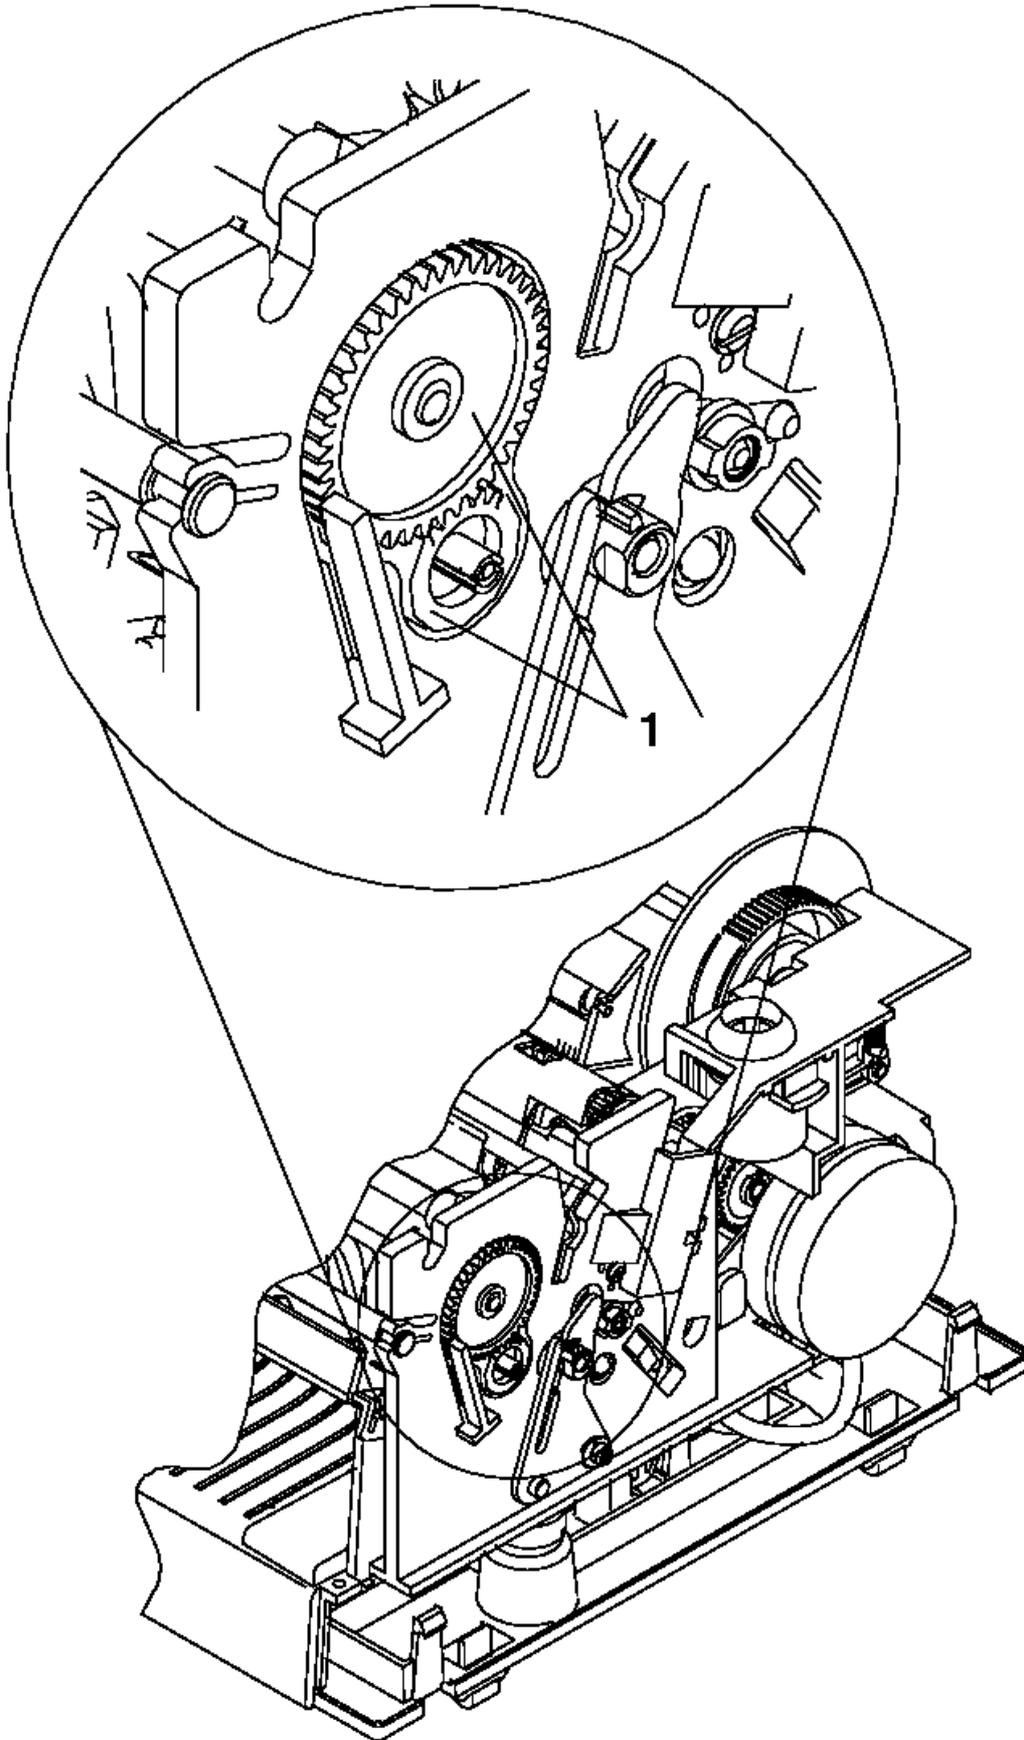

Figure 6-30. Printer Ribbon Drive Gears
- Inspect the printer drive gears (1) for missing teeth. See Figure 6-30.
| Exchange the ribbon drive gear, the large gear in Figure 6-30.
| Exchange the ribbon drive clutch, the small gear in Figure 6-30.